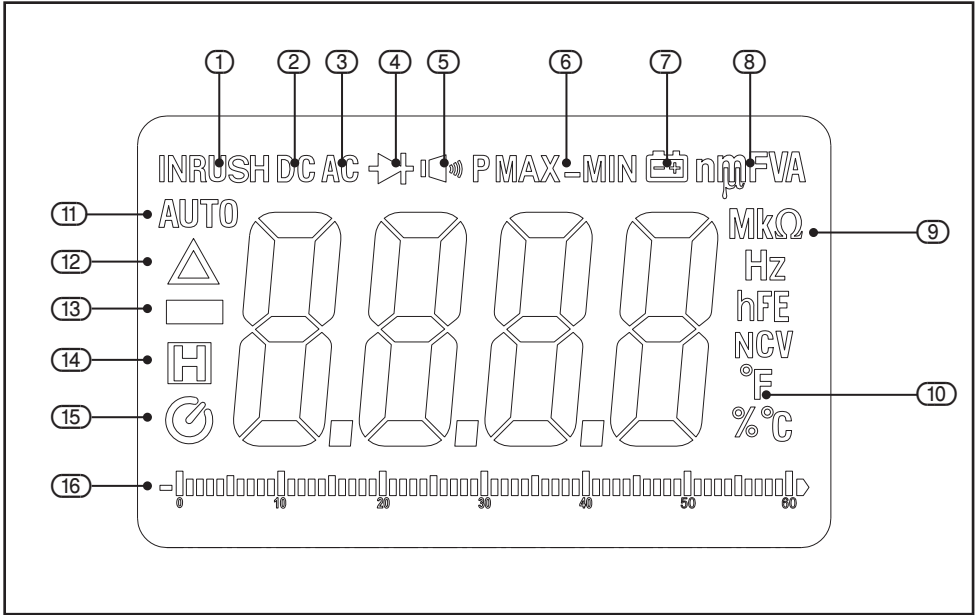

FIG.1
6.1 LCD (Liquid-crystal display) - FIG. 1